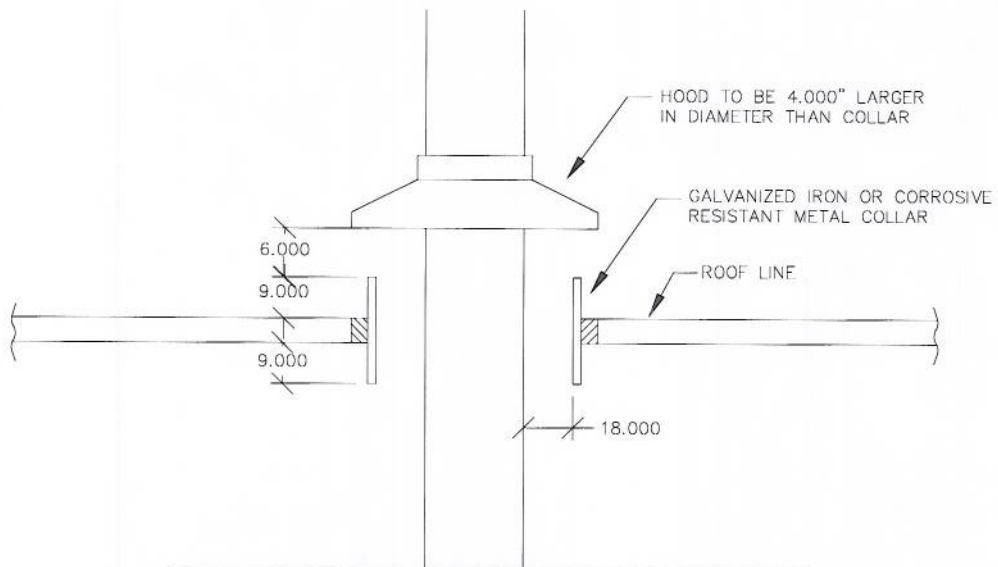

Figure 3: Combustible Roof Construction Diagram
- For recommended construction of a metal chimney through a combustible roof, **See Figure 3: "Combustible Roof Construction Diagram" on page 11**